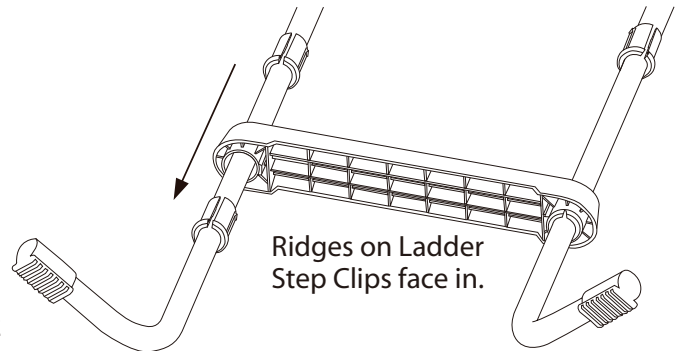

Fig. 2
The ridge on the ladder clip should be on the inside of the leg as shown in Figure 2. Repeat with “L” leg section.
3. Slide a step (42) down over both legs. Make sure that the side of the step marked with an “R” is on the right side leg. Slide the step down until the ladder step clips (44) inserts into the underside of the step and the ridges inside of the clips lock into place. The ladder step clips should stay in the indented section of the ladder leg as you press the steps down over them. The ladder step clips should insert flush against the bottom of the step. See Figure 2.
4. Repeat Steps 2 and 3, installing the rest of the ladder step clips (44) and steps (42) for the first section.
6. The Machine Screws (45) should be installed from the inside of the Handle (41), and out through the Ladder Handle Brace (49) on the outside. Make sure that the English warning is facing out on both handle sections. Install the Lock Washer (47), and thread the Cap Nut (48) on until the Ladder Brace tightens up against the Handle.